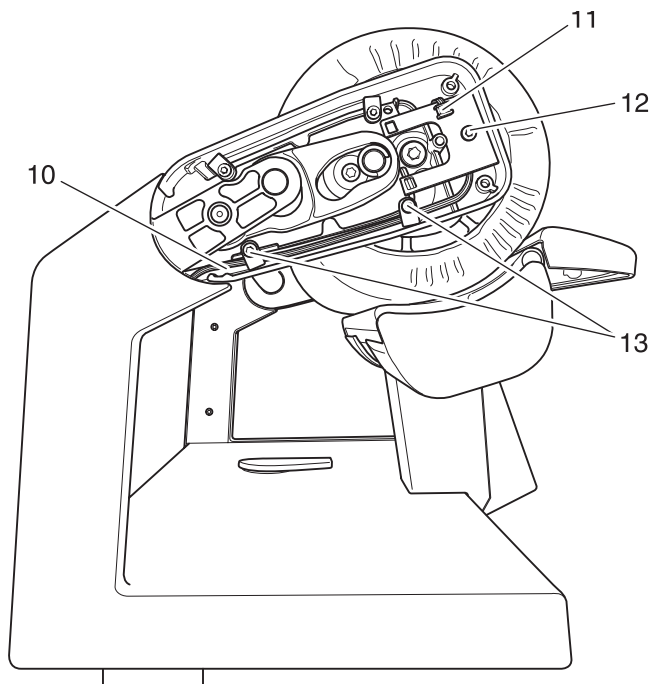

Fig. 1e
- Carefully remove wire branch 10 from the conduit (fig. 1e).